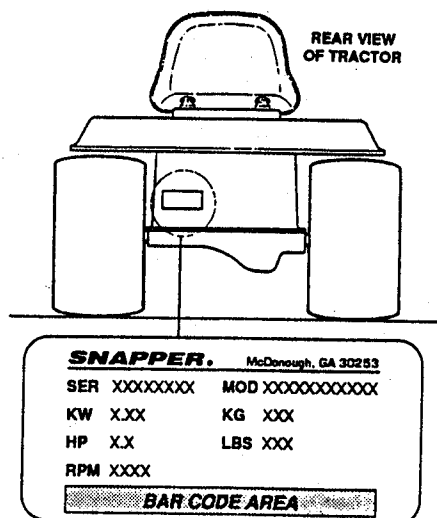

FIGURE 1
STEP 1: To determine the horse power and series designation of your lawn tractor, locate the serial/model identification decal on the tractor. The decal is located at the rear of the tractor. See Figure 1. The identification of the model will be used in certain steps in this instruction. The most important information needed from this decal is: